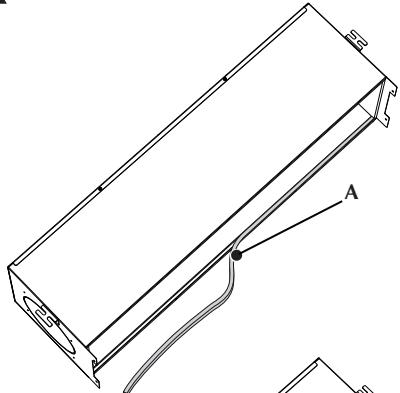

Fig.7
- Stick the adhesive side of the two longer gaskets on the external side of the bends (B) (fig.7).